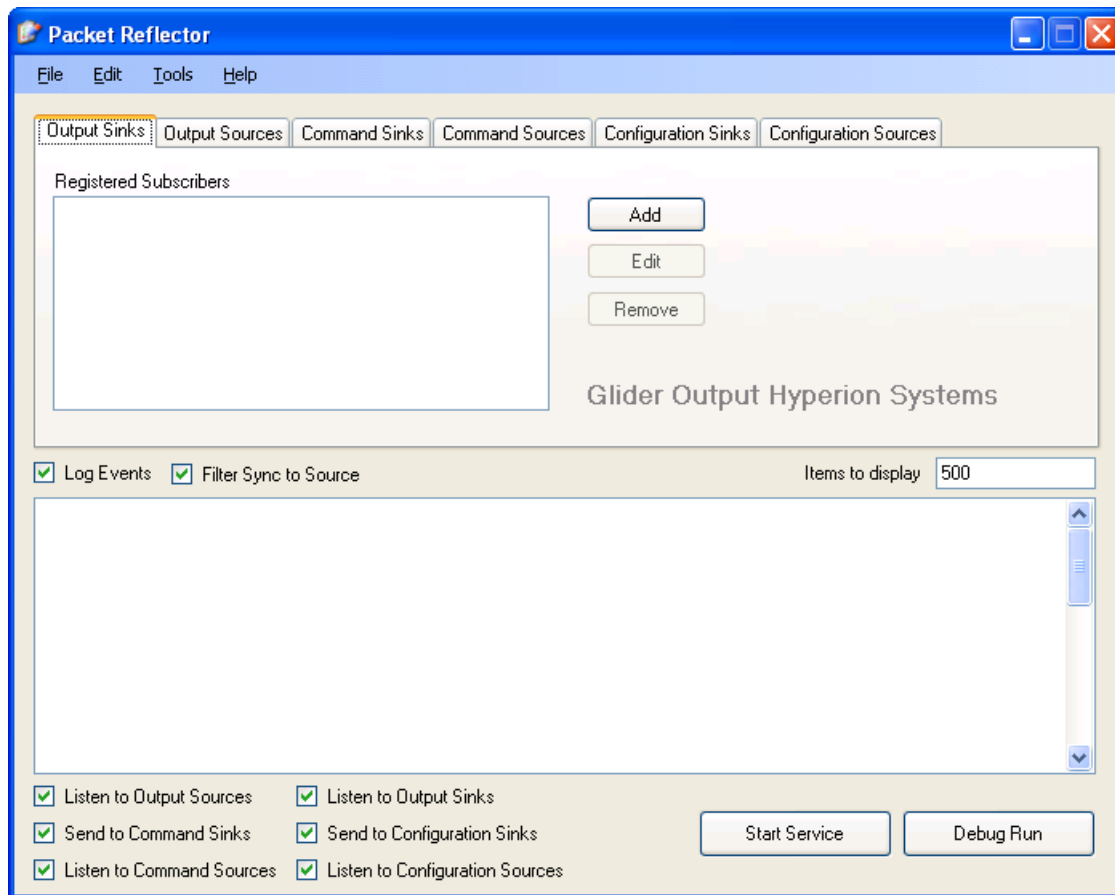

Figure 3-4: Basic Packet Reflector UI
Either method should bring up the Packet Reflector User Interface (UI) shown in Figure 3-4.